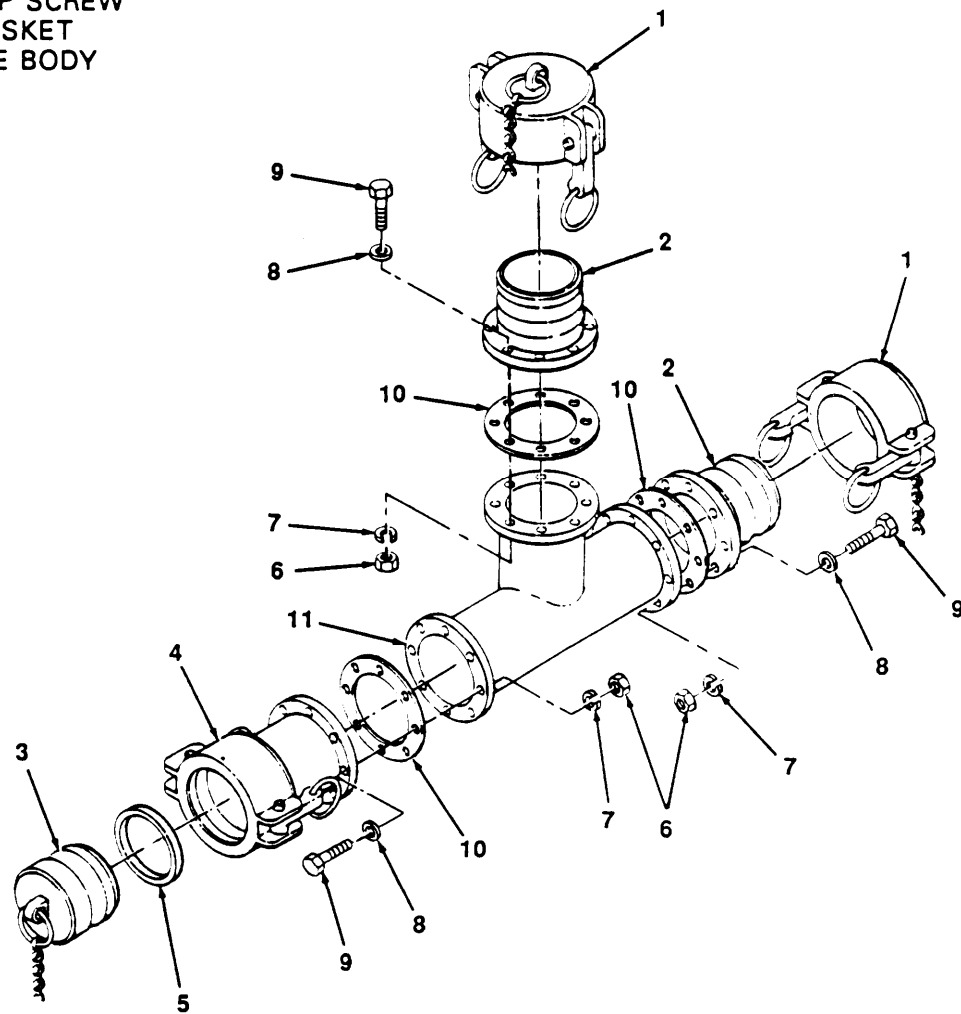

Figure 4-6. Tee Assembly Repair.
(3) Tee assembly (figure 4-6).